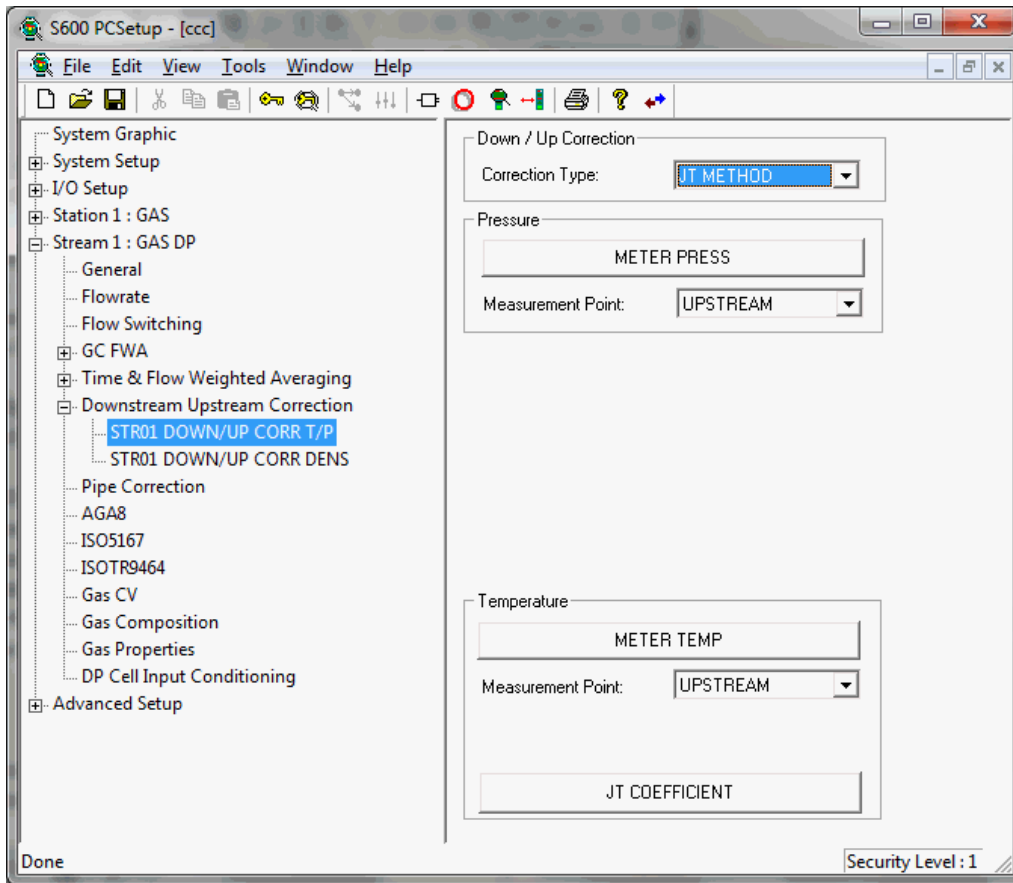
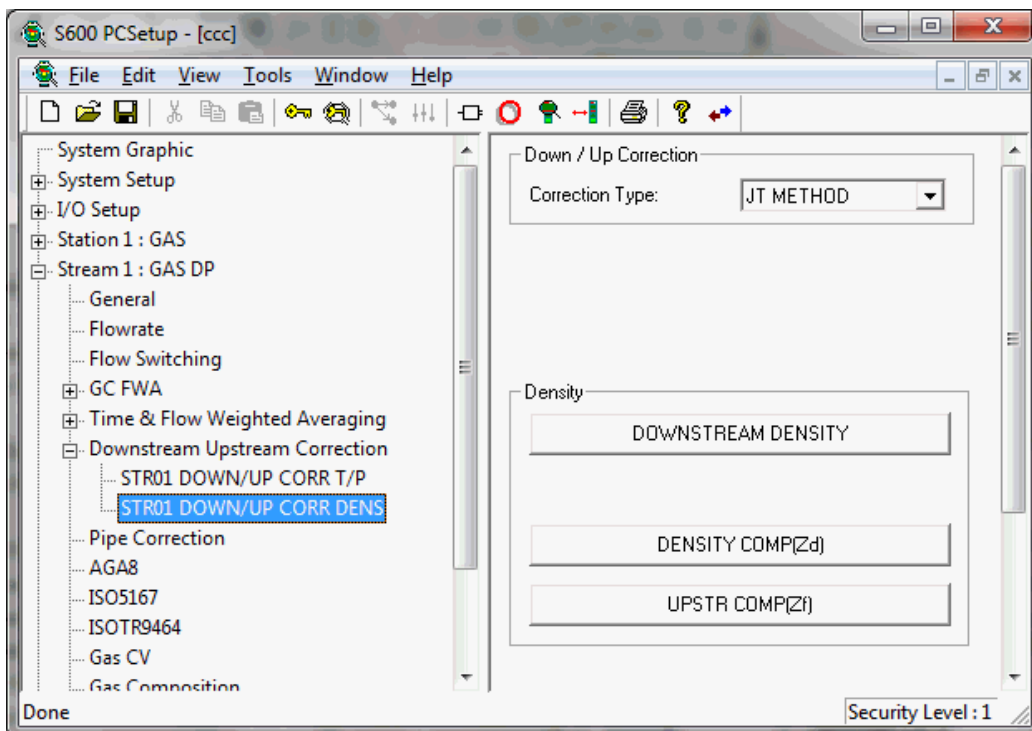

Figure 6-27. Temperature/Pressure Correction screen
Figure 6-28. Density Correction screen
**Note:** For the purpose of explanation, we include two figures (*Figure 6-27* and *Figure 6-28*) that display all options. Depending on your selections in the previous step, Config600 displays only portions of these screens.